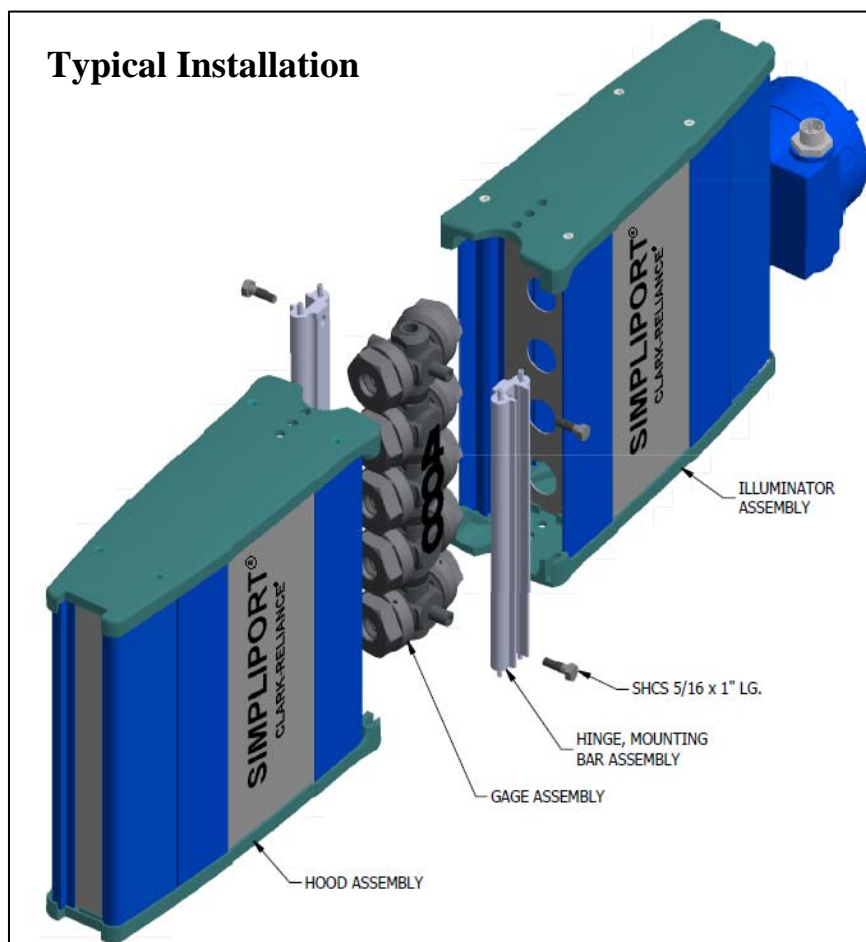

Figure 1
- 1) Assemble the mounting bar assemblies to the Simpliport Gage mounting lugs using the (4) 5/16" X 1" SHCS that are provided (Fig. 1).